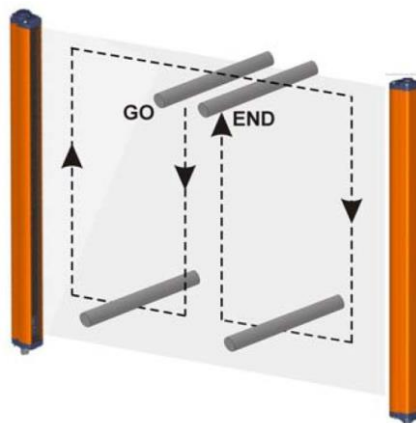

Figure 21
- ESPE remains in SAFE state (➡I) intercepting the beams along the protected area using the specific test piece (TP-40, TP-50, TP-90), following the Figure 21 scheme.